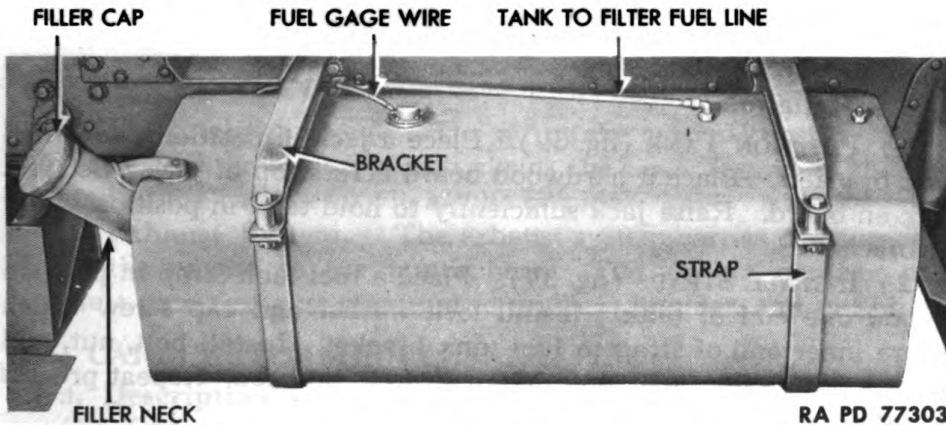

Figure 39 — Fuel Tank With Cover Plate Removed
a. **Description** (fig. 39). A rectangular 60-gallon fuel tank is attached to the outside of the chassis frame ahead of the left rear wheel. The tank is of welded sheet metal construction. Two cast iron brackets, bolted to the frame side rail, extend out over the tank. Two steel straps run around the tank and secure it to the brackets. The fuel outlet elbow and gage connection are on top of the tank. They are protected by a wooden cover plate bolted to the fuel tank brackets. A conventional drain plug is located in the approximate center of the bottom of the tank. The filler neck, which is equipped with an internal built-in air outlet, is an integral part of the tank. It extends obliquely from the front end of the tank near its upper left corner. The neck contains a removable sleeve and strainer. A chain attaches the filler cap to the removable sleeve.
(1) Twist and pull sleeve and strainer from filler neck (fig. 39). Clean sleeve and strainer in dry-cleaning solvent and dry with compressed air. Install the unit in filler neck. Check tightness of all mounting and strap bolts. Tighten any nuts found to be loose.
(2) At all times, and especially during cold weather, keep tank as nearly full as possible to reduce condensation. Whenever excessive water is in evidence in gasoline filter or in sediment bowl of fuel
(2) **REMOVE COVER PLATE** (fig. 39). Remove six cap screws, lock washers, and flat washers which secure wooden fuel tank cover plate to fuel tank brackets. Lift plate from brackets.
(3) **DISCONNECT FUEL GAGE WIRE** (fig. 39). Turn off ignition switch. Remove nut and lock washer which secure gage wire to tank unit terminal. Lift wire from terminal and insulate tip of wire with tape or cloth..
(4) **DISCONNECT FUEL LINE** (fig. 39). Disconnect tank to filter fuel line from tank fitting.
(5) **REMOVE TANK STRAPS AND TANK** (fig. 39). Support the tank with a hardwood block placed across the top of a jack. Remove two cotter pins, nuts and bolts which hold outer ends of tank straps to brackets. Remove the two cap screws and lock washers which hold inner ends of straps to brackets. Lift straps from vehicle. Carefully lower tank to ground. Do not rest tank on its top or
(1) **POSITION TANK** (fig. 39). Place a jack in position under fuel tank brackets. Place a hardwood board across top of jack. Set fuel tank on board. Raise jack sufficiently to hold tank in position under its brackets.
(2) **INSTALL STRAPS** (fig. 39). Place a fuel tank strap in position around one end of tank. Install lock washer and cap screw which secure inner end of strap to fuel tank bracket. Install bolt, nut, and cotter key which attach outer end of strap to bracket. Repeat process to install other strap.
(3) **CONNECT FUEL LINE** (fig. 39). Connect tank to filter fuel line to tank fitting.
(4) **CONNECT FUEL GAGE WIRE** (fig. 39). Place wire tip in position on tank unit terminal and install lock washer and nut.
(5) **INSTALL COVER PLATE** (fig. 39). Place fuel tank cover plate in position on fuel tank brackets. Install six flat washers, lock washers, and cap screws which secure plate to brackets.